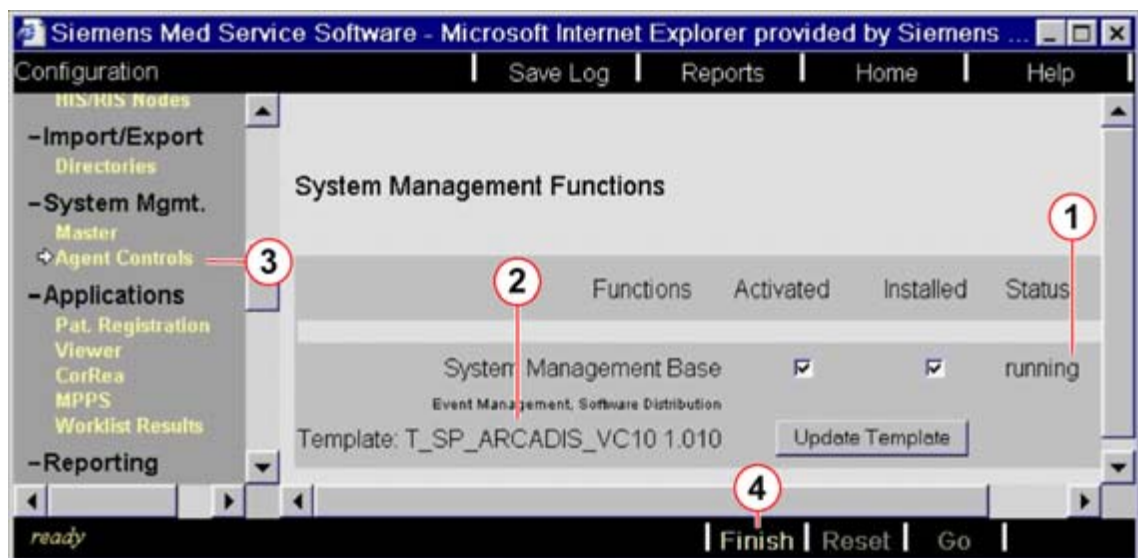

Fig. 33: MNP status running with template (e.g. ARCADIS VC10)
- Wait until the status of both (1 and 2/ Fig. 33 / p. 55) is displayed.
To refresh this page, click on (4/ Fig. 33 / p. 55) and click on (3/ Fig. 33 / p. 55) in sequence in two minute increments.